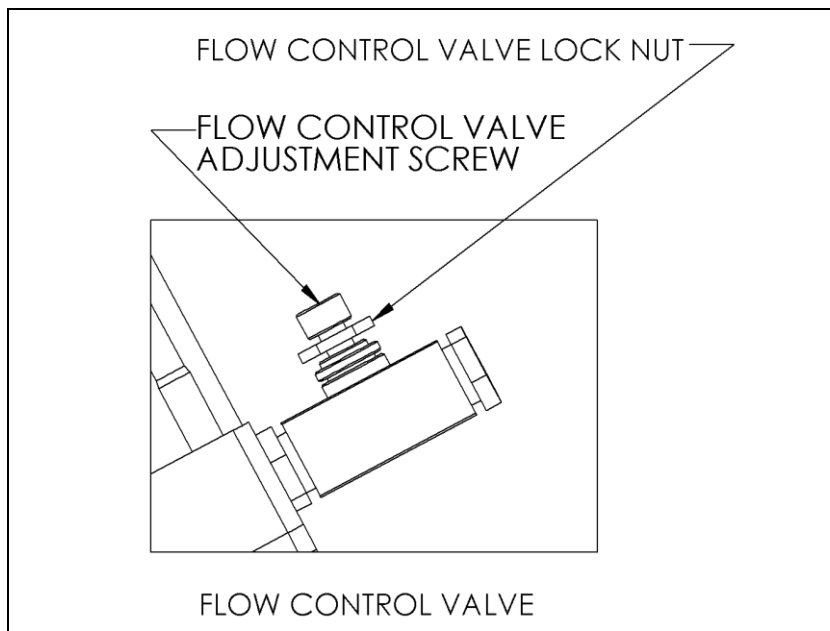

Figure 2 – Adjustable Flow Control Valve
4. If valve has an Air Cushion: Unlock Flow Control Valve by turning Flow Control Valve lock nut counterclockwise. Turn Flow Control Valve adjustment screw two (2) turns counterclockwise from fully close position. Lock Flow Control Valve by turning Flow Control Valve lock nut clockwise. (See Figure 2.)